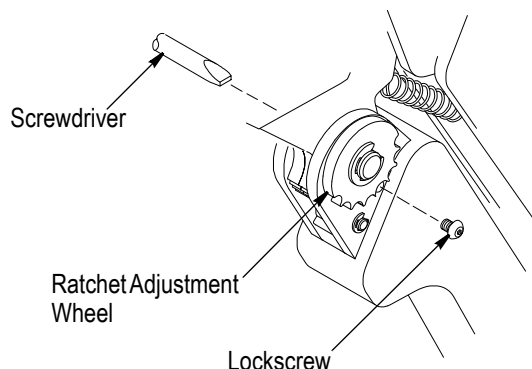

Figure 4
1. Remove the lock screw from the ratchet adjustment wheel. Refer to Figure 4.
3. Using a crimp height comparator, measure the wire barrel crimp height as shown in Figure 4. If the crimp height conforms to the dimension, the tool assembly is considered dimensionally correct. If not, the tool frame must be adjusted. Refer to Paragraph 5.2, Crimp Height Adjustment.